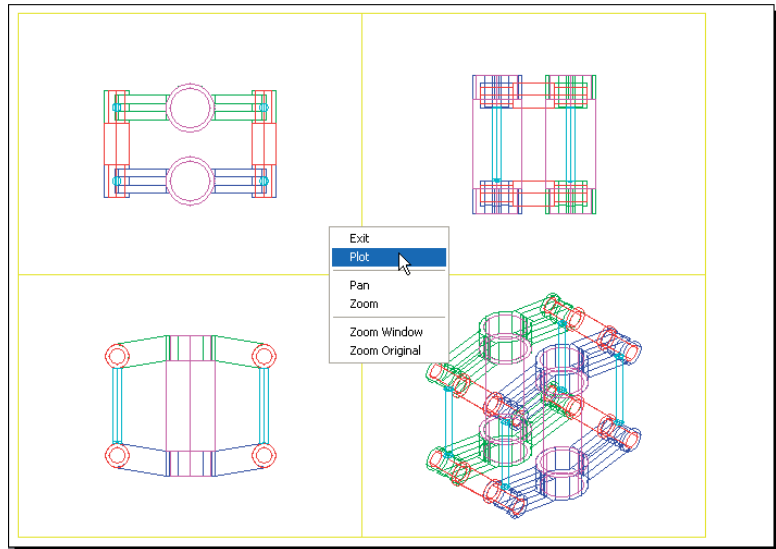

Fig. 20.8 First example – Printing/Plotting
First example – Printing/Plotting (Fig. 20.8)
11. Click the **Preview** button. The full preview of the plot appears (Fig. 20.8).
1. Open the 3D model drawing of the assembly shown in Fig. 20.8 in a single **SW Isometric** view.